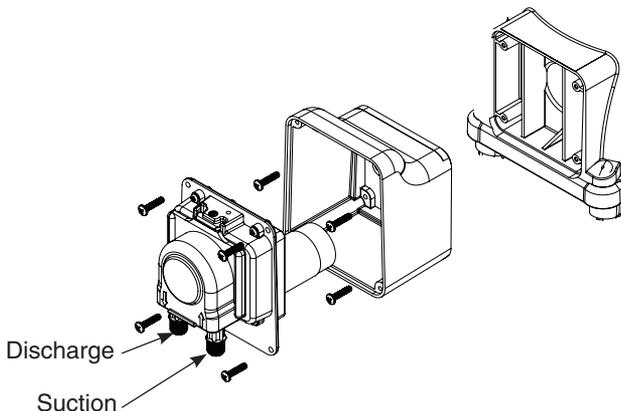

Figure 1
3. Cut off 1-2' of tubing and connect the black suction fitting of the tank to the inlet (right) of the pump. See Figure 1. Do not overtighten the nuts.
3. Install the motor shroud with four screws. See Figure 1.
4. Mount the pump on the motor shroud with four screws. See Figure 1.
5. Cut off 1-2' of tubing and connect the black suction fitting of the tank to the inlet (right) of the pump. See Figure 1. Note: **Do not overtighten the nuts.**